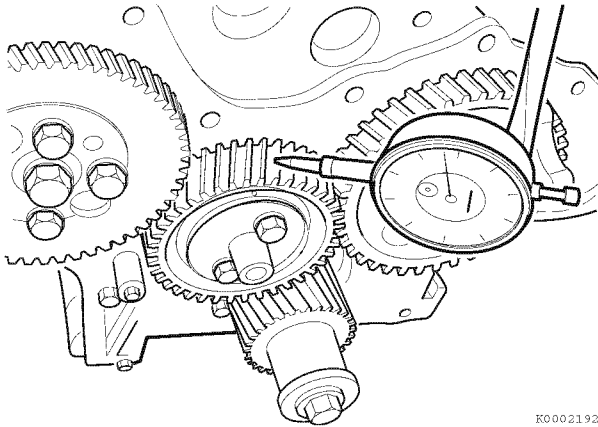

Figure 6-42
1. Install a dial indicator as shown in **Figure 6-42**.